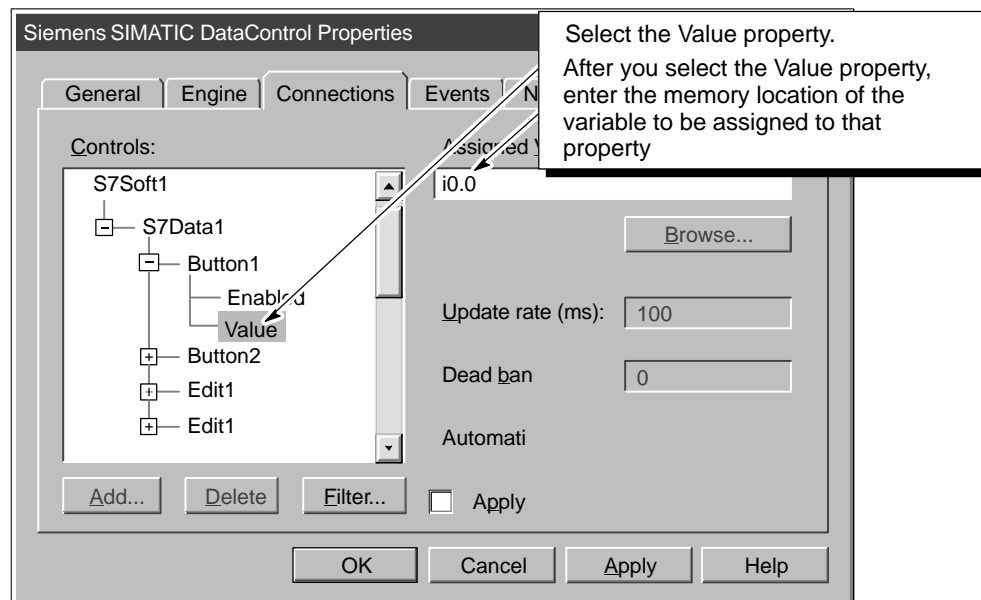

Figure 1-9 Assigning a Variable in the Control Engine to a Property in a Control
7. As shown in See Figure 1-9, select the Value property of the control.